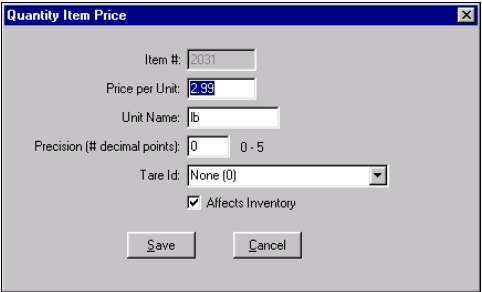

Figure 5-148 Quantity Item Price Dialog Box
1. Click **Add**. The Quantity Item Price dialog box displays, as shown in Figure 5-148: